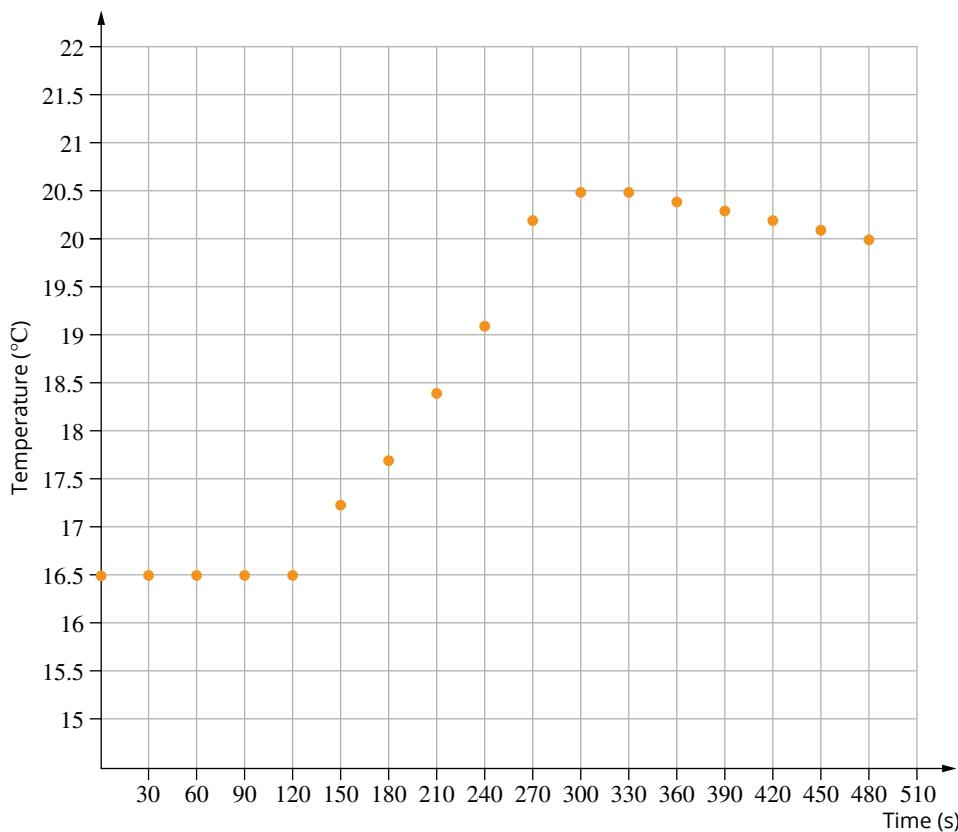

FIGURE 17.3.5 Graph of temperature against time during electrical calibration of a solution calorimeter.
- 5 A solution calorimeter was calibrated by the electrical method, using a current of 3.80 A for 150 s with a voltage of 6.50 V. The temperature–time graph for the calibration is shown in Figure 17.3.5. The heater was turned on at $t = 120$ s and was turned off at $t = 270$ s. Calculate the calibration factor for this calorimeter.